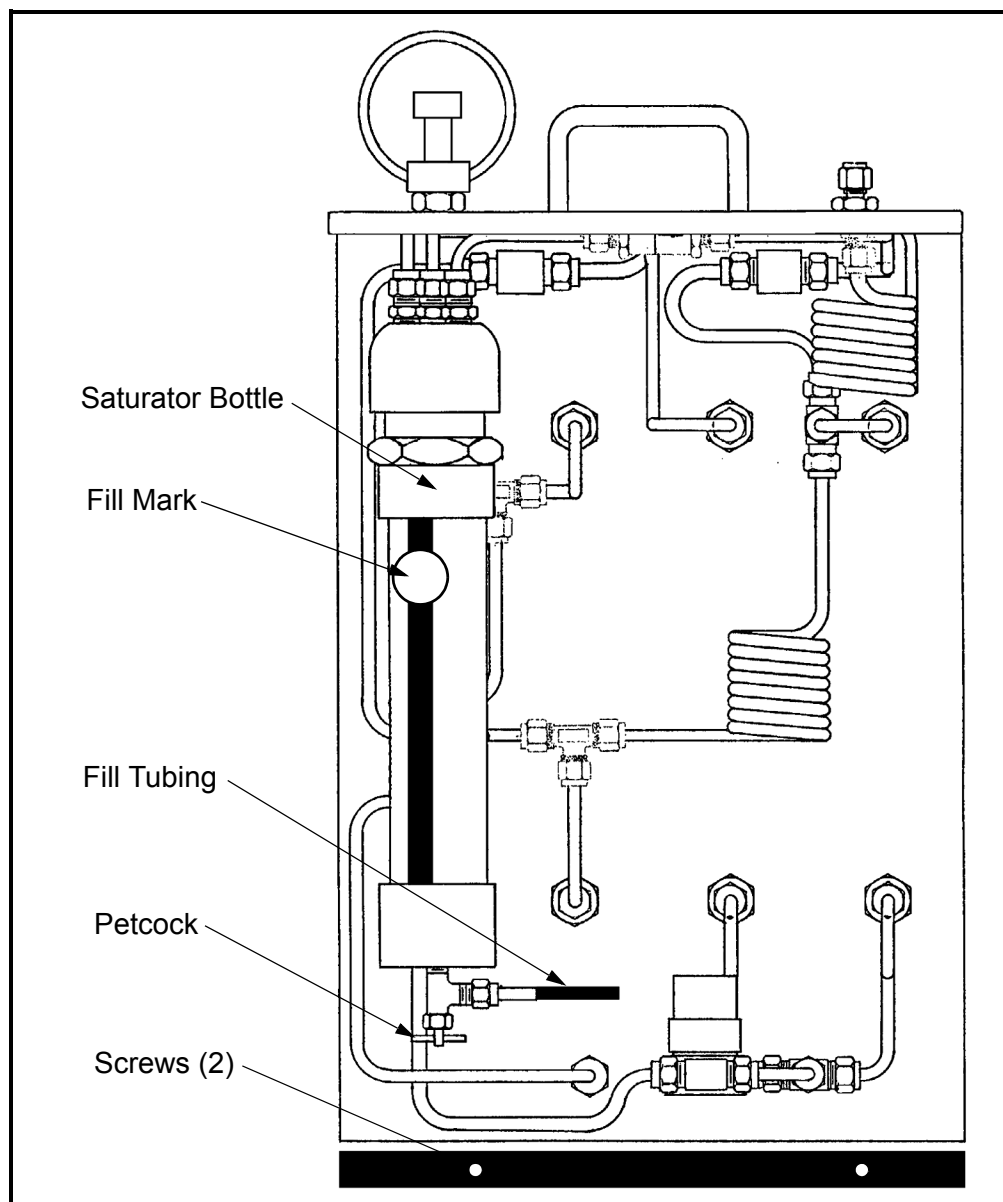

Figure 2: MG-101 Rear View with Panel Removed
1. Remove the back panel by removing the two small screws at the bottom (see *Figure 2* below).
2. Fill the supplied plastic squeeze bottle with distilled (not deionized) water and connect it to the fill tubing at the bottom of the saturator bottle (see *Figure 2* below). This length of plastic tubing should be left permanently attached to the fitting at the bottom of the saturator bottle.
5. Using the squeeze bottle, fill the saturator bottle until the water level reaches the fill mark on the bottle (see *Figure 2* on page 5).